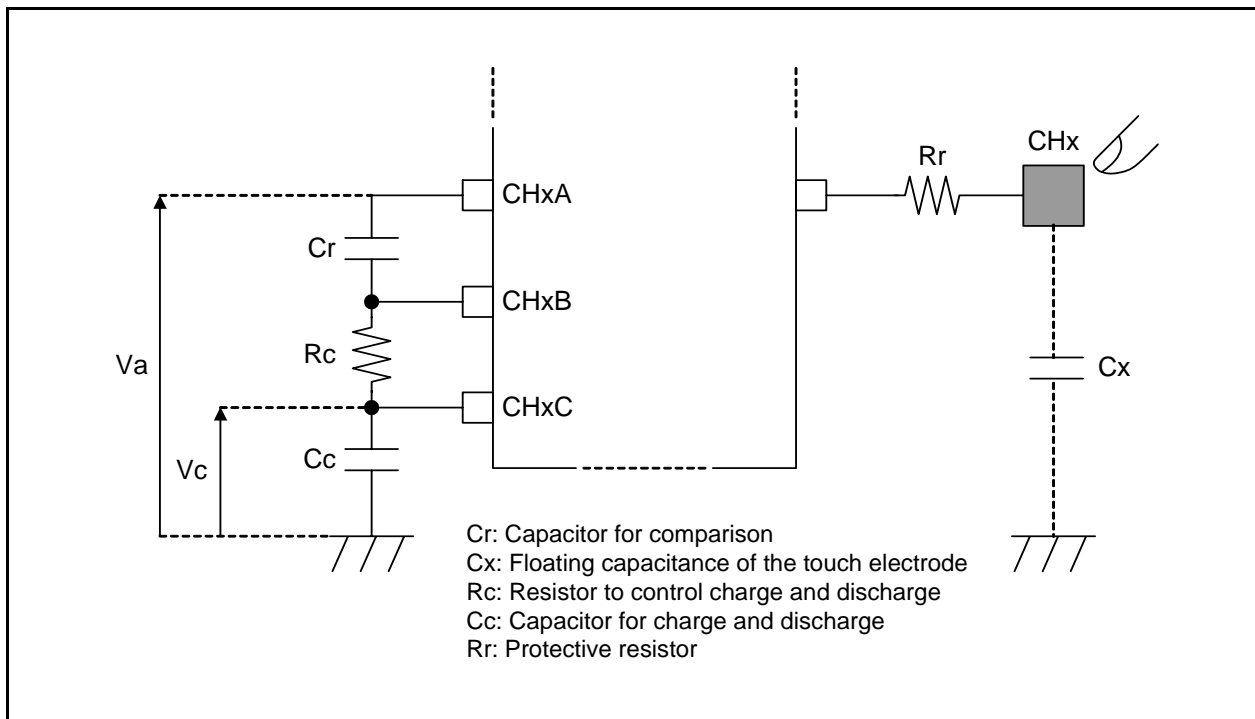

Figure 21.11 Measurement Circuit
Figure 21.11 shows the Measurement Circuit. The measurement operation principles of the sensor touch control unit are explained below.
As shown in Figure 21.11, the operation is described with resistors and capacitors inserted.
- (1) Charge Cc by connecting the CHxC pin to the voltage supply (VCC).
- (2) After charging Cc fully, discharge Cc by connecting pins CHxA and CHxB to the ground level (VSS).
- (3) After discharging Cc for a short period of time, keep pins CHxA and CHxB at high-impedance (Hi-Z), and measure the voltage at the CHxA pin. At this point, as shown in Figure 21.11, when the voltage measured at the CHxA pin is Va, and the voltage measured at the CHxC pin is Vc, Va at the time of voltage measurement is expressed by the following formula (A).